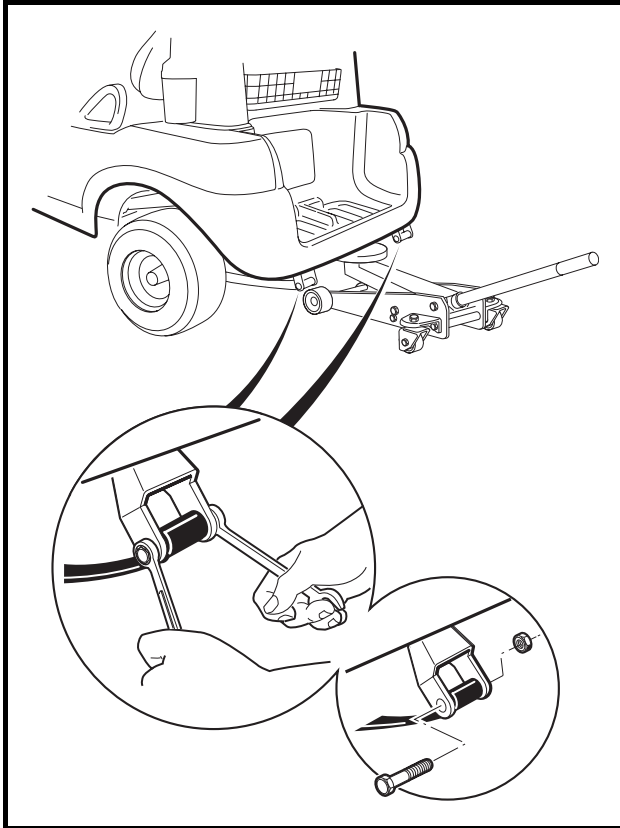

Figure 17-18 Leaf Spring and Shackles
4. Lower vehicle to the height required to position the leaf springs in the mounting shackles. Install the mounting bolts and lock nuts. Tighten lock nuts to 15 ft-lb (20.3 N·m) (**Figure 17-18, Page 17-13**).